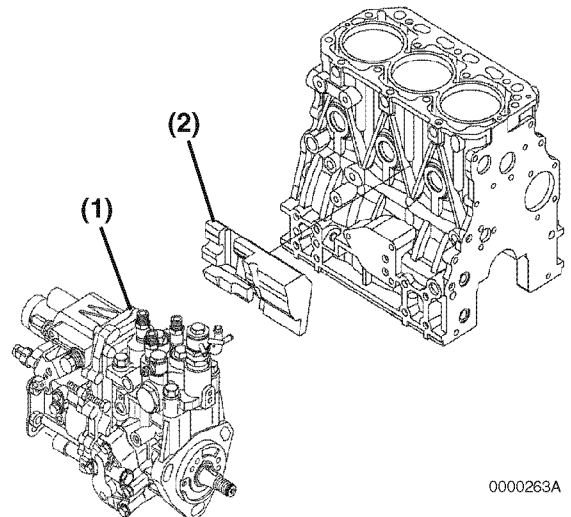
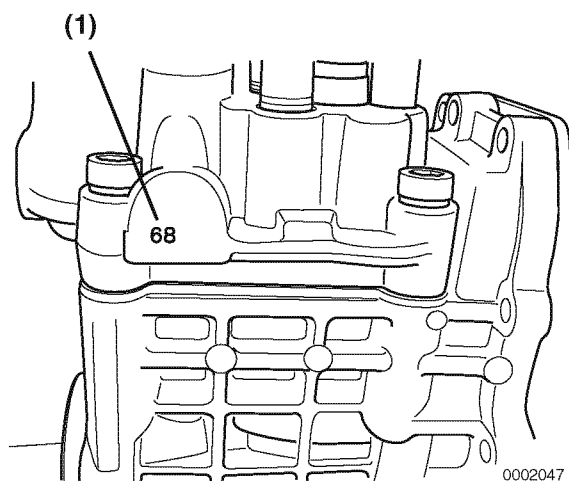

Figure 7-20
Figure 7-21
Note: Some model engines may require the intake manifold and fuel injection pump insulator (**Figure 7-20, (2)**) be removed to access the inner fuel injection pump (**Figure 7-20, (1)**) retaining nuts.
24. Remove the fuel injection pump (**Figure 7-20, (1)**). For purposes of future injection timing purposes, record the fuel injection pump timing index number located on the boss on the engine side (back) of the of the fuel injection pump (**Figure 7-21, (1)**).